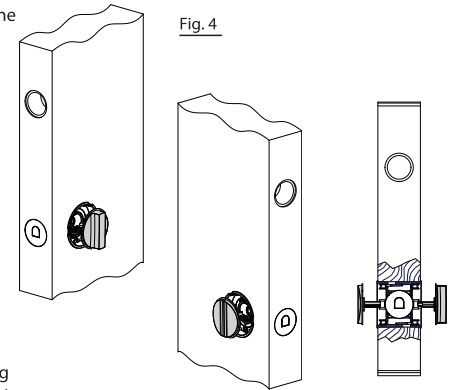

Fig. 4
4. Insert the knob and the emergency disc against the plastic supports until the engagement thereof (Fig. 4).